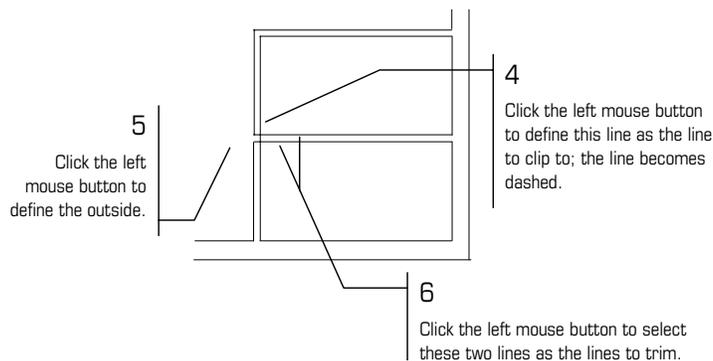

Figure 3.24: Completing a 1-line trim
4. Click on the inside wall line, shown in Figure 3.24. The line you select becomes dashed. You are prompted to “Point to outside.”